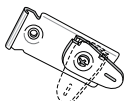

figure 4
3. To secure the track to the brackets, rotate each cam lock counter-clockwise until it is parallel with the bracket at 6 o'clock position (figure 4).